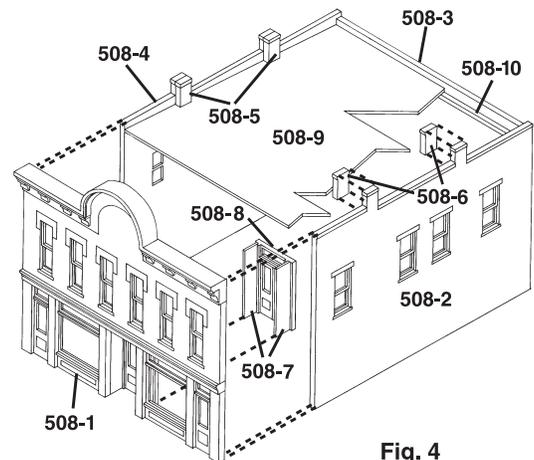

Fig. 4
3. Glue Front Door Assembly to back of Entry Wall (508-1) (**Fig. 4**).